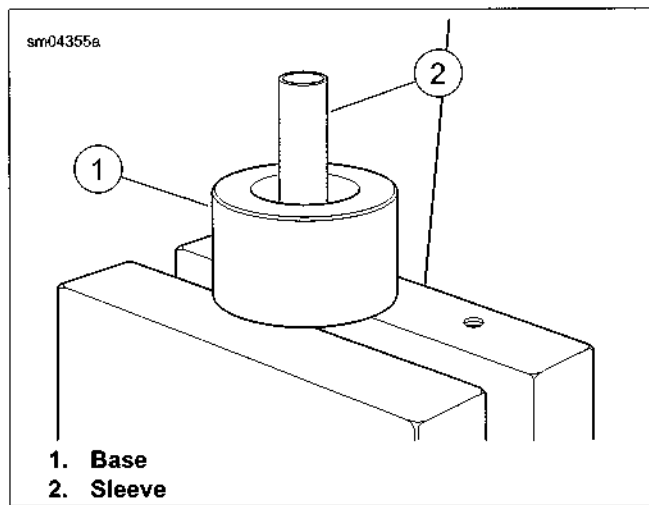
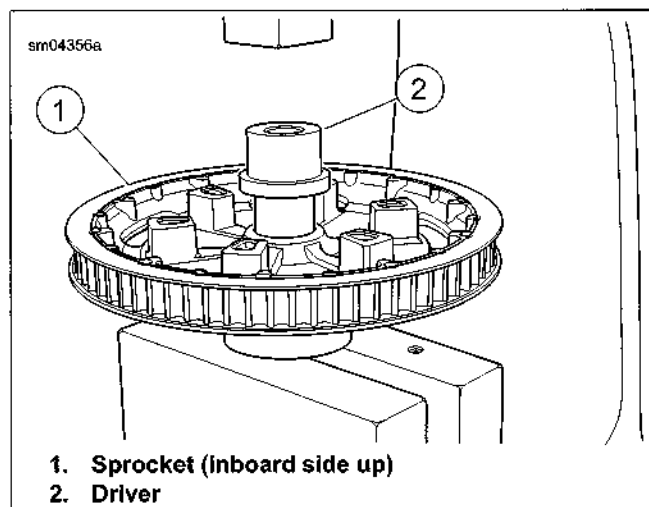

Figure D-3. Position Tool for Bearing Removal
Figure D-4. Remove Compensator Sprocket Bearing
2. See Figure D-3. Place parallel press blocks on deck of arbor press. Leave gap between press blocks to accommodate base pin in next step.
3. Position base (1) on press blocks with the large OD top-side.
4. Slide sleeve (2) over base pin.
5. See Figure D-4. With the inboard side facing up, slide sprocket (1) over sleeve until it rests on base.
6. Slide small OD of driver (2) over sleeve until contact is made with inner race of bearing.